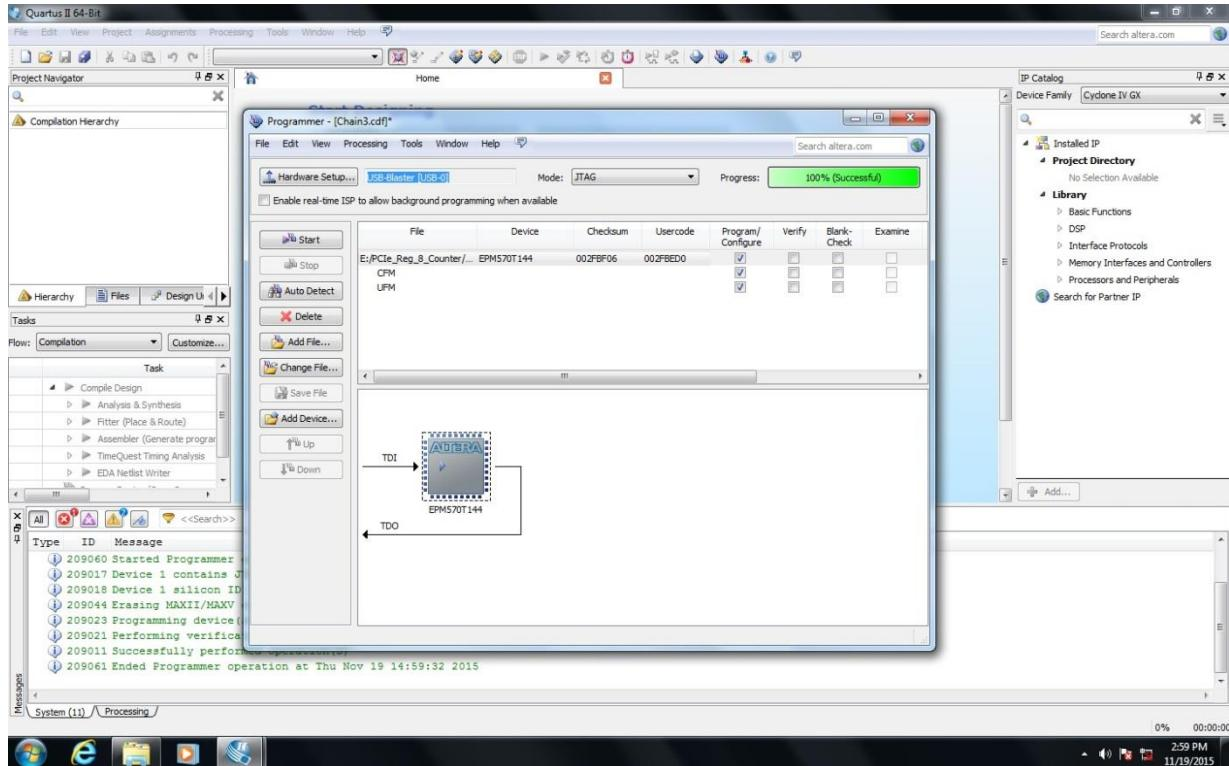

Figure 34: Flashing the image on the device
- Finally, click the **start** tab to start flashing the image. On successful flashing, 100% is shown in the progress box as shown in the figure 34.
- Finally, click the *start* tab to start flashing the image. On successful flashing, 100% is shown in the progress box as like shown in the figure 34.